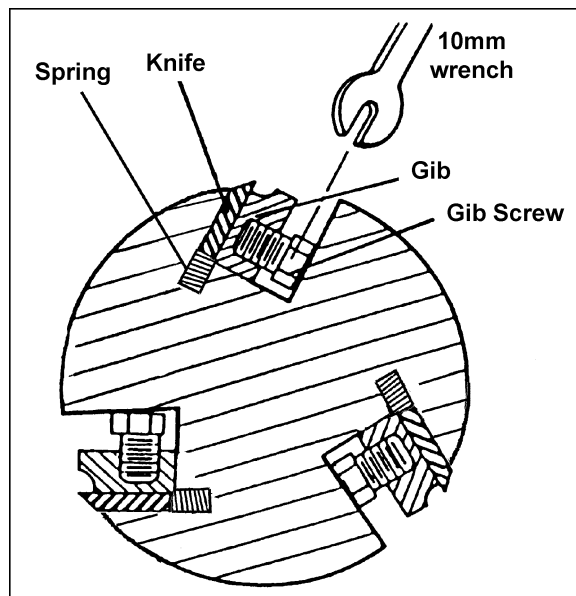

Figure 18
3. Turn the six gib screws (Figure 18) into the gib with a 10mm wrench. As the pressure of the gib is released, the two springs in the cutterhead slot will cause the knife to rise.
7. Place the new or resharpened knife into the slot as shown in Figure 18, making sure the direction of the knife is correct.